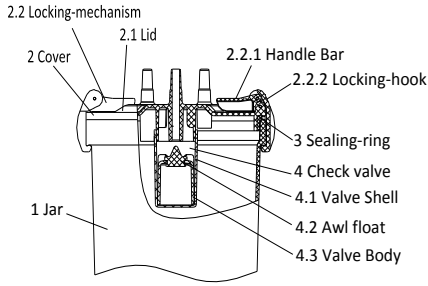

Figure 1: Configurations
Configuration of the suction jar for SJ1500/2500 is shown on Figure 1. The suction jar is composed mainly of the jar (1), cover (2), and sealing-ring (3), and check valve (4). The cover (2) includes the lid (2.1) and locking-mechanism (2.2). The locking-mechanism has two part including handle bar (2.2.1) and locking-hooks (2.2.2). The check valve (4) includes a valve shell (4.1), an awl float (4.2), and a valve body (4.3), all of which can be disassembled individually. The jar (1) and the lid (2.1) enclose the sealing-ring (3) and make a no-leak seal. The locking-mechanism (2.2) secures the jar (1) and cover (2) by locking them
After sterilizing, use Figure 1 to assemble the parts back to one piece. Put the suction jar into a clean bag, seal it, and store it in a dry, well ventilated area.